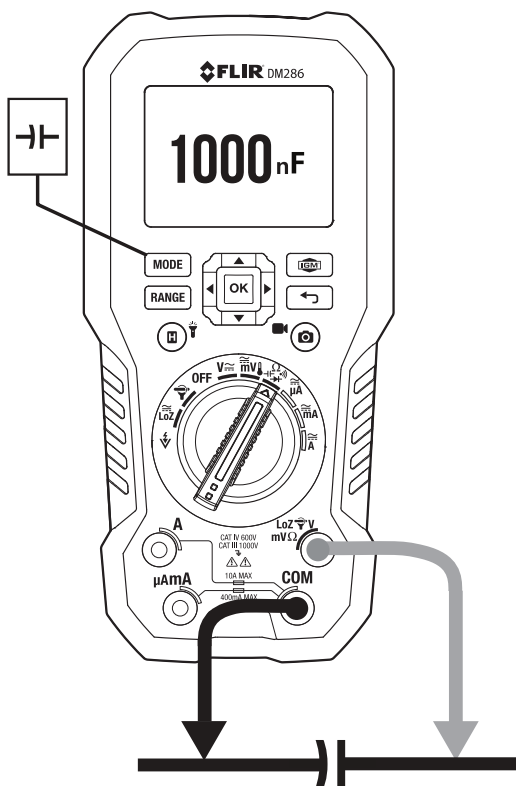

Fig. 9.7 Capacitance Measurements
1. Set the function switch to the Ω position. See **Fig. 9.7**.